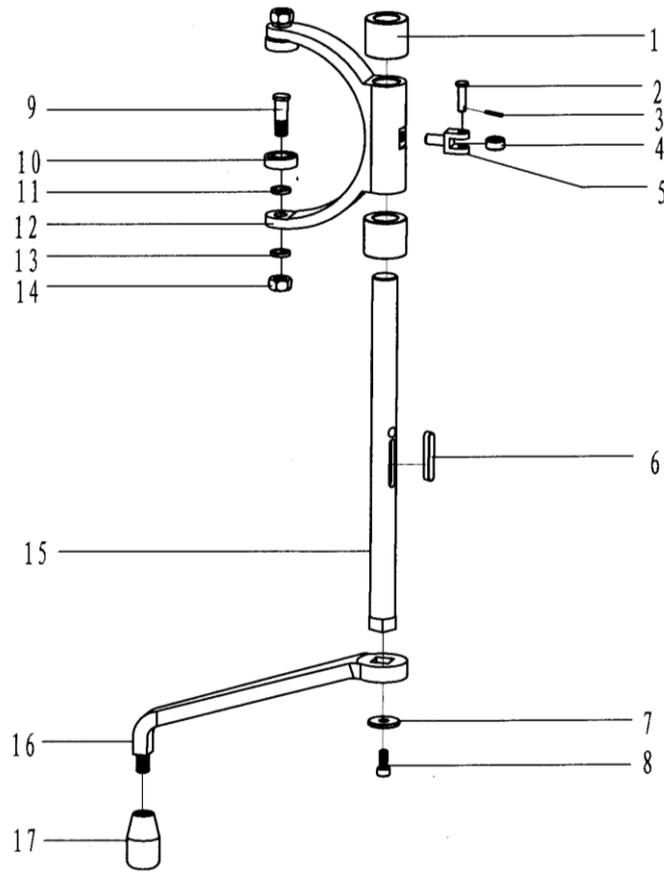

Fig9. Shifting mechanism assembly
7.2.7 Shifting mechanism assembly (Fig9. Table9)